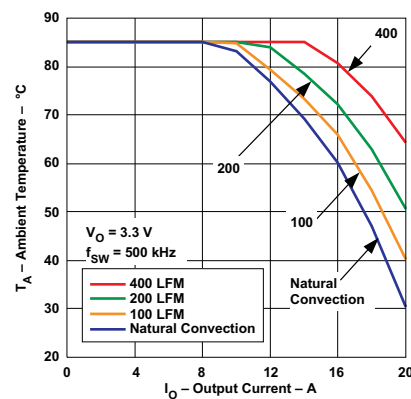

Figure 9. Safe Operating Area
- (2) The temperature derating curves represent the conditions at which internal components are at or below the manufacturer's maximum operating temperatures. Derating limits apply to modules soldered directly to a 100 mm x 100 mm double-sided PCB with 2 oz. copper. Please refer to the mechanical specification for more information. Applies to Figure 6 thru Figure 9.